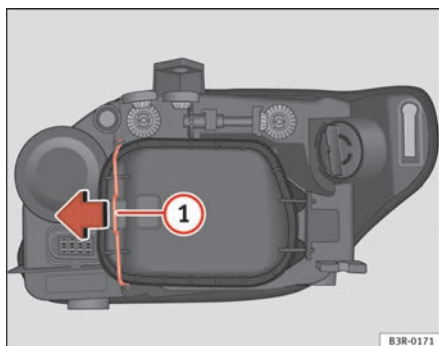

Fig. 195 Side light bulb (outside of vehicle)
- Move the brace ⇒ fig. 195 ① in the direction of the arrow and remove the rigid cover, separating the brace side and then removing the two tabs from the other end of the cover.